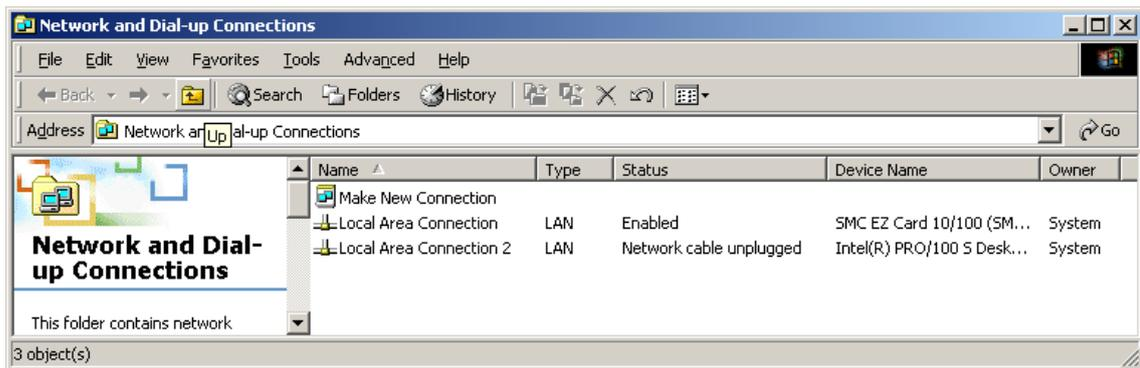
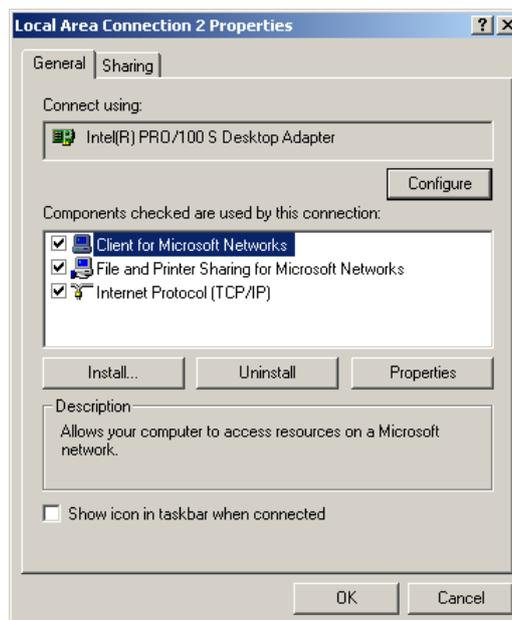

Figure 1.3-1 Network and Dial-up Connections dialog box
Figure 1.3-2 Local Area Connection 2 Properties dialog box
A "Network and Dial-up Connections" dialog box (Figure 1.3-1) will appear.
- (3) Confirm that the network card used to connect to the C1 controller appears in the name field in the Network and Dial-up Connections dialog box (Figure 1.3-1). After confirming that the network card is registered, right click on its name. Select "Properties" from the popup menu. The "Local Area Connection 2 Properties" dialog box (Figure 1.3-2) will appear.
- (4) Select “Internet Protocol TCP/IP” on the “Local Area Connection 2 Properties” dialog box (Figure 1.3-2). Then, select “Properties.”